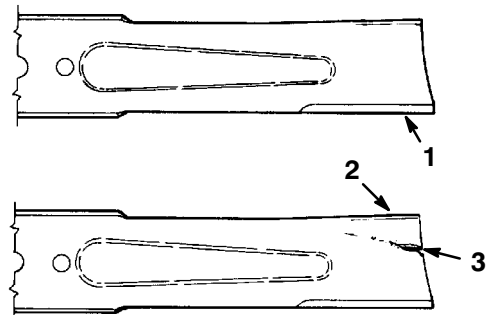

Figure 22
1. Inspect the cutting edges (Fig 22).
- Inspect the blade, especially the curved area (Fig. 22).
If you notice any damage, wear, or a slot forming in this area (item 3 in Fig. 22), immediately install a new blade.